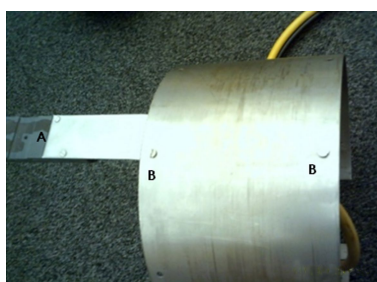

Figure 2: Sensor Mounting Plate attached to the bottom of the Velocity Sensor
2. Secure the sensor mounting plate to the stainless steel fixing ring with the screws provided as shown in Figure 2: